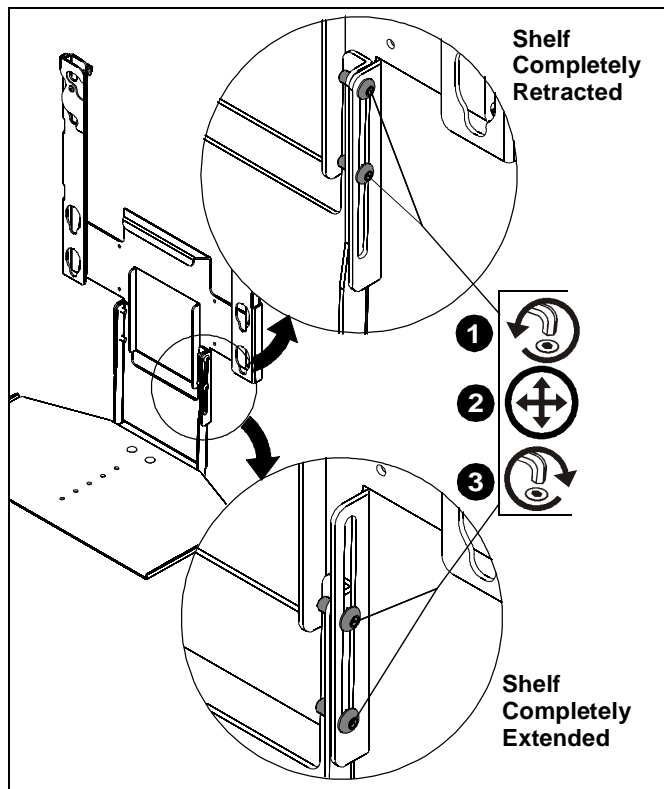

Figure 7
1. Loosen two button head cap screws securing adjustment bracket to shelf bracket using 1/8" hex wrench (K). (See Figure 7)
2. Reposition shelf up or down to desired position. (See Figure 7)
3. Tighten two button head cap screws securing adjustment bracket to shelf bracket using 1/8" hex wrench (K). (See Figure 7)